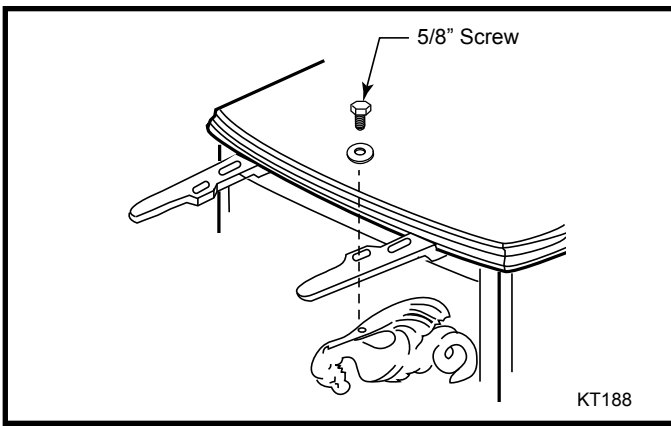

Fig. 3 Attach dragon bracket to front flat bracket.
2. Attach the dragon bracket to the flat bracket at the front of the stove using a flat washer under the head of a 1/4-20 x 5/8" screw. Tighten the screw only finger tight.. (Fig. 3)